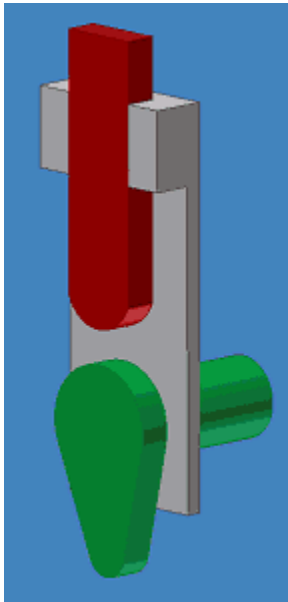
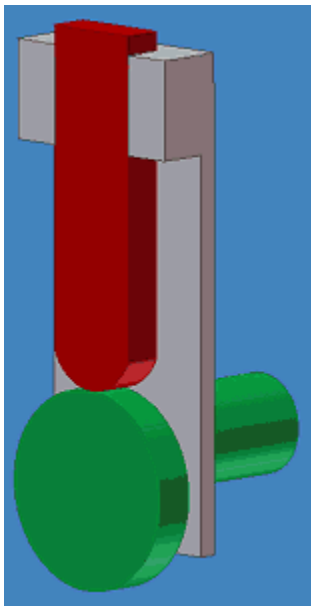

Figure 1: Assembly file BF-03-01.iam.
Figure 4: A simple circular cam.
3. Start Inventor, go to the folder where you placed the content, and open the assembly file BF-03-01.iam, which looks like Figure 1.
6. To apply a Transitional constraint, click the curved face at the bottom of the red follower (see Figure 1), and **then** click the upper, curved face of the green cam. Your screen, including the dialog box, should now look like Figure 3.
You have now applied and used the Transitional constraint in a fairly rudimentary way. (Keep in mind that I said earlier that this constraint offered a great range of motion.) So why is this constraint called Transitional? Take a close look at the green cam. Now, compare it to the one shown in Figure 4, which is a screen shot of assembly file BF-03-02.iam.
The cam in Figure 4 consists of a simple, circular shape, extruded eccentrically to the shaft. The contact face of the cam consists of a single, continuous, constant-radius surface constrained with a Tangent constraint. In this instance, the follower has a simple reciprocating motion when you rotate the cam.
Now look at the cam in Figures 1 and 3. Its contact face consists of two arc portions that transition (hence, Transitional constraint) between two straight portions. The contact face actually consists of four surfaces. The unique Shape Manager technology within Inventor makes it possible for this transitional surface to work as a cam.
- Unlike other constraints, Transitional is not “infinite.” The follower face must always touch the cam face. No offset value spaces them radially apart as in other constraints. The faces must also touch in the axial direction. For example, BF-03-02.iam (see Figure 4) uses a simple Tangent constraint. You can increase the offset value of the Insert constraint between the cam and the frame, and the constraint still functions. Try the same thing in BF-03-01.iam (see Figure 1), however, and the Transitional constraint fails.